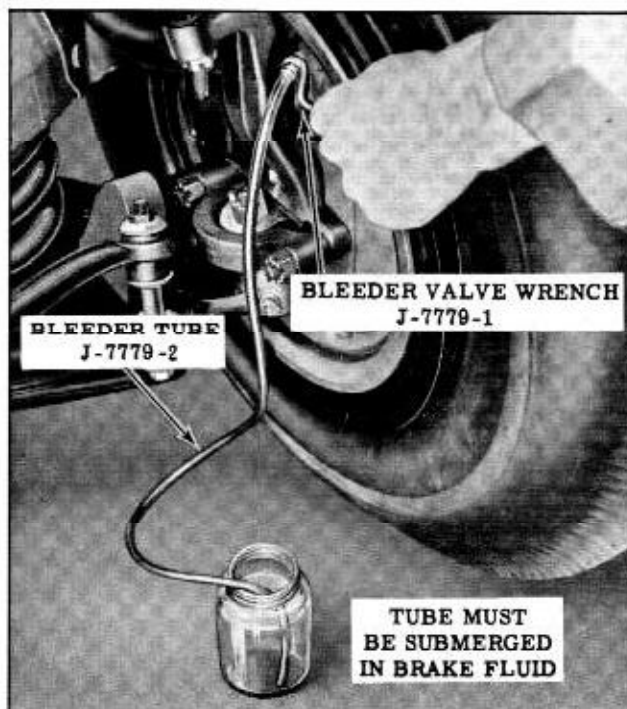

Fig. 7-5 Bleeding Brakes
3. Attach Bleeder Tube J-7779-2 to bleeder valve. (Fig. 7-5) THE TUBE MUST HANG SUBMERGED IN A CLEAN CONTAINER PARTIALLY FILLED WITH G.M. BRAKE FLUID NO. 11 DURING THE BLEEDING OPERATION.